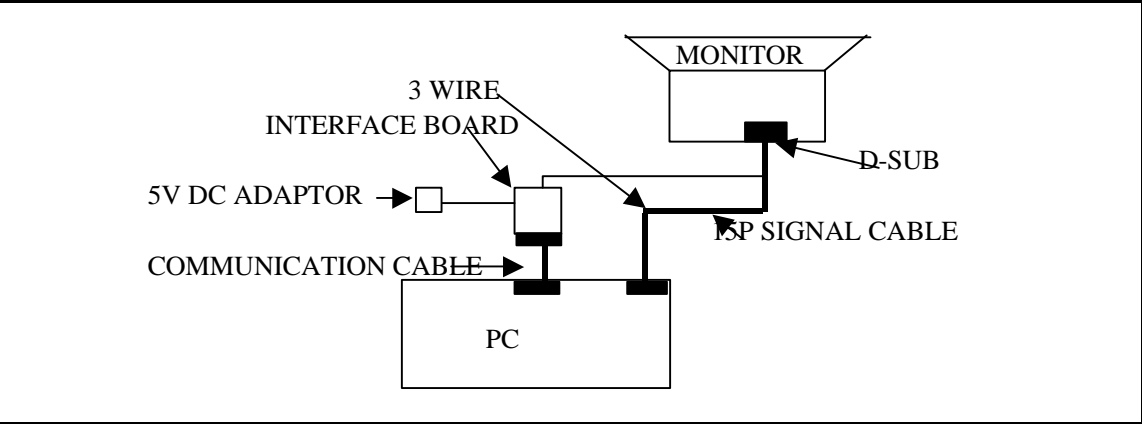

Figure 1-2 : When using PC
3. We won't recommend you using FIGURE 1-2 as your setup.